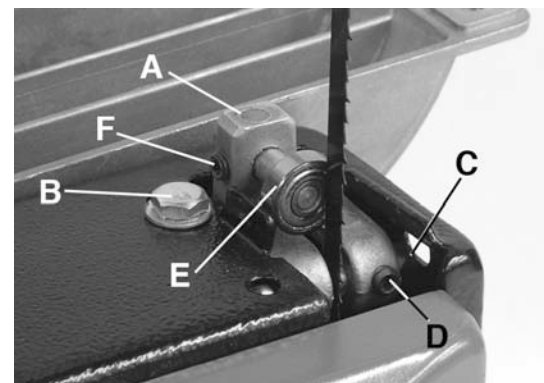

FIGURE 14
- 3) Repeat for the lower blade guide support. Adjust the position of the lower blade guide support (A) Fig.14. Loosen hex. nut and bolt (B).
- 4) Slide the blade guide support until the front edge of the blade guides (C) Fig.14 are about 1/32" behind the gullet of the blade (behind the blade teeth). Tighten the hex. nut and bolt.
- 6) Repeat on the lower blade guide pins (C) Fig.14 using set screws (D).
- 9) Repeat on the lower back-up bearing (E) Fig.14 using set screw (F).